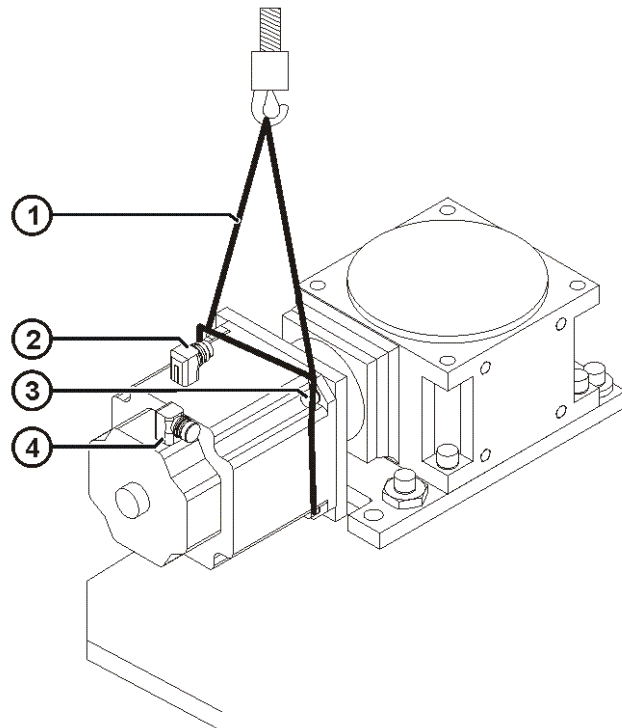

Fig. 11-4: Installing the servomotor
5. Fasten the servomotor with four M12x30-8.8 Allen screws (>>> Fig. 11-4) (3) and lock washers.
6. Tighten the four M12x30-8.8 Allen screws (3) with a torque of $M_A = 78 \text{ Nm}$.